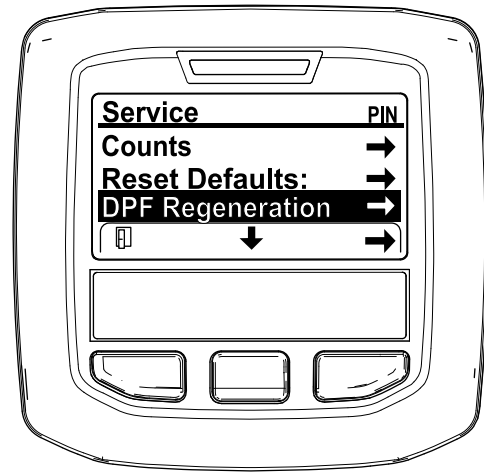

Figure 48
3. In the SERVICE MENU, press the middle button until the DPF REGENERATION options displays, and press the right button to select the DPF REGENERATION option (Figure 48).